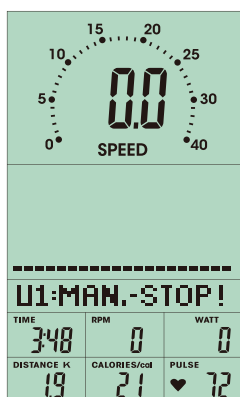

FIGURE 14
1. Press ENTER to enter into a MANUAL program (FIGURE 14).